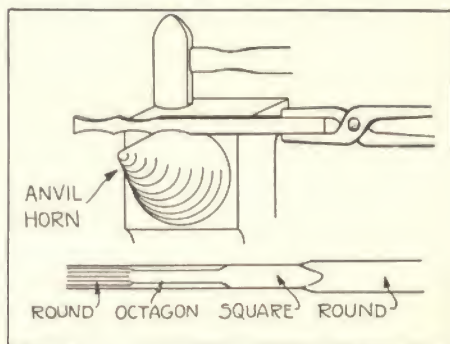

Fig. 47—How to draw out heated stock.
**Drawing out** or making an iron longer and thinner is best done across the horn of the anvil as shown in Fig. 47.